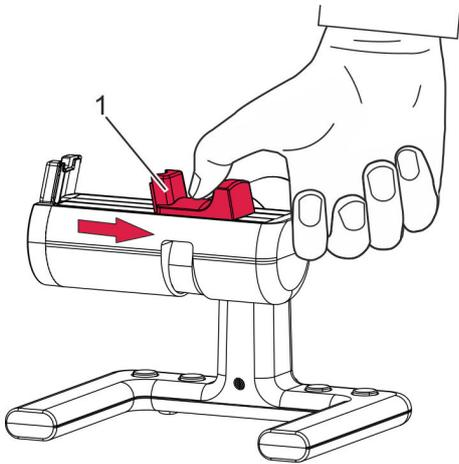

Fig. 8: Tightening the clamping jaws
1. ➔ Pull the clamping jaw (Fig. 8/1) outwards and hold it.